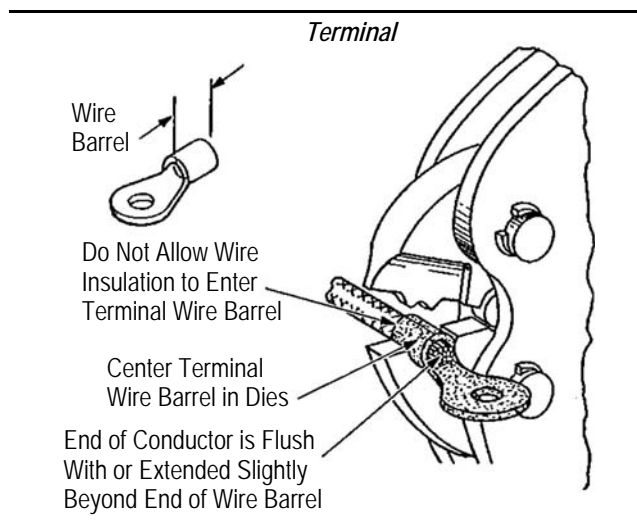

Figure 4
2. Insert stripped wire into wire barrel of terminal or splice, as shown in Figure 4, 5, 6, or 7.
3. Place terminal or splice in crimping jaws as shown in Figure 4, 5, 6, or 7. For best results, when brazed seam on splice is visible, position seam toward upper jaw.